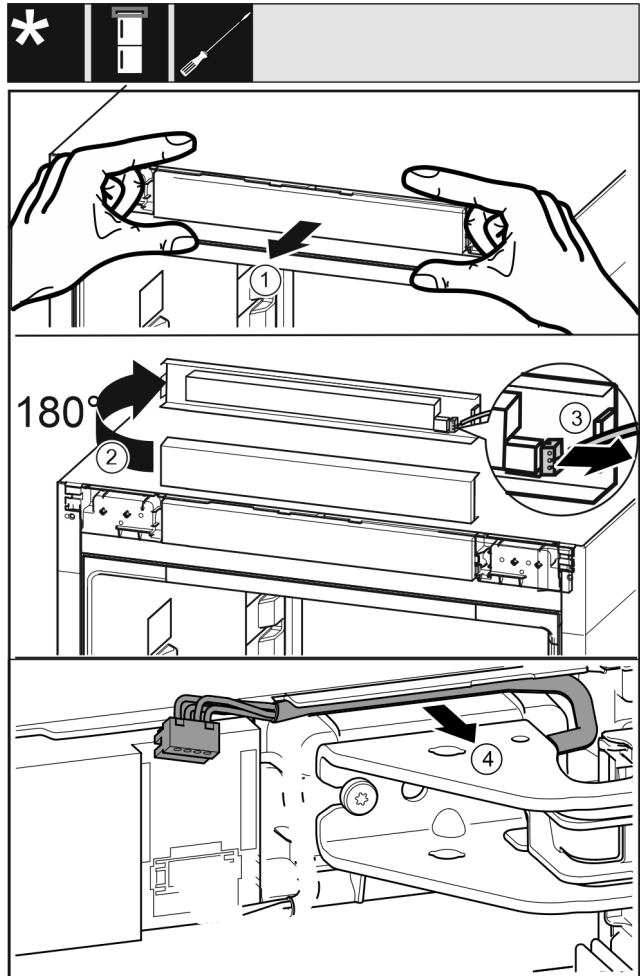

Fig. 13
- Carefully release the control panel trim Fig. 13 (1) forwards.
- Turn the control panel trim Fig. 13 (2) upwards by 180°.
- Push the locking tab Fig. 13 (3) backwards and remove the plug carefully.
- Release the cable over the swap bearing block Fig. 13 (4) from the guide carefully.